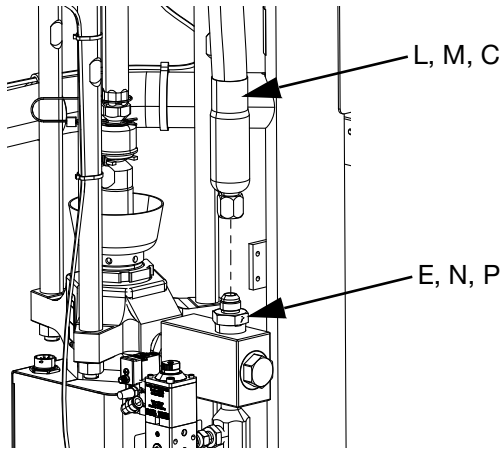

FIG. 18
4. If using a Single iQ Ram Supply System, connect Supply Hose 1 (C) to the Ram Supply System to Supply Hose 1 Fitting (E) as shown in FIG. 1 and FIG. 18.
- a. Connect Tandem Hose 1 (L) to the Ram Supply Unit 1 to Tandem Hose 1 Fitting (N) as shown in FIG. 2 and FIG. 18.
- b. Connect Tandem Hose 2 (M) to the Ram Supply Unit 2 to Tandem Hose 2 Fitting (P) as shown in FIG. 2 and FIG. 18.